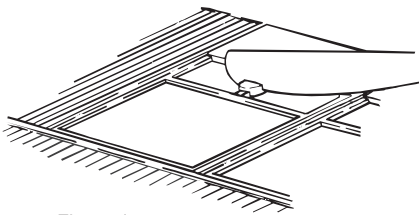

Figure 1
**DO NOT** use a knife to cut the runner away. Firstly create a gap in the centre of this runner with a heated knife blade or Dremel tool. Support the bar with a suitable packer and trim the remains of the gate with a sharp knife. (Refer to figure 1)